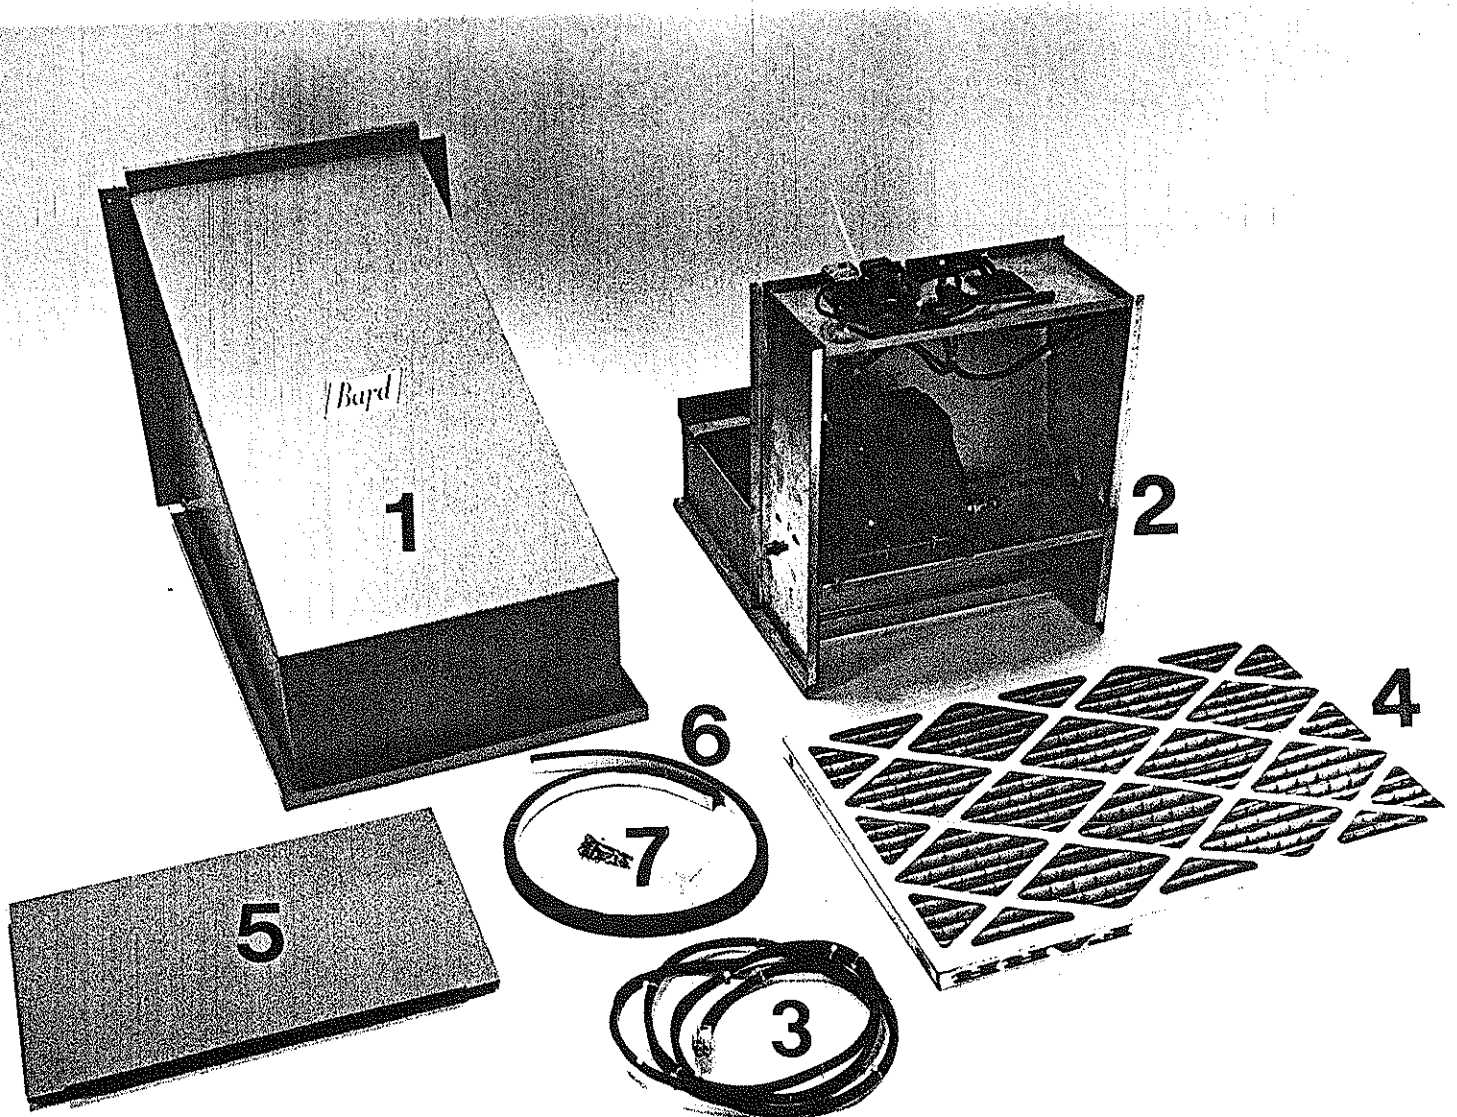

Figure 1.
1. Unpack the economizer assembly which includes: (1) intake hood subassembly, (2) return/outside air damper/filter rack subassembly, (3) electrical harness, (4) filters, (5) filter access panel, (6) gasketing, (7) miscellaneous hardware and installation instructions. (See Figure 1)